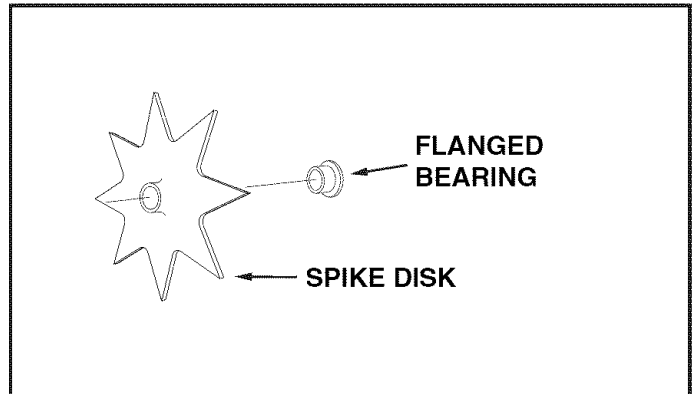

FIGURE 3
- Carefully press or hammer a flanged bearing into each spike disk from the side shown in figure 3.